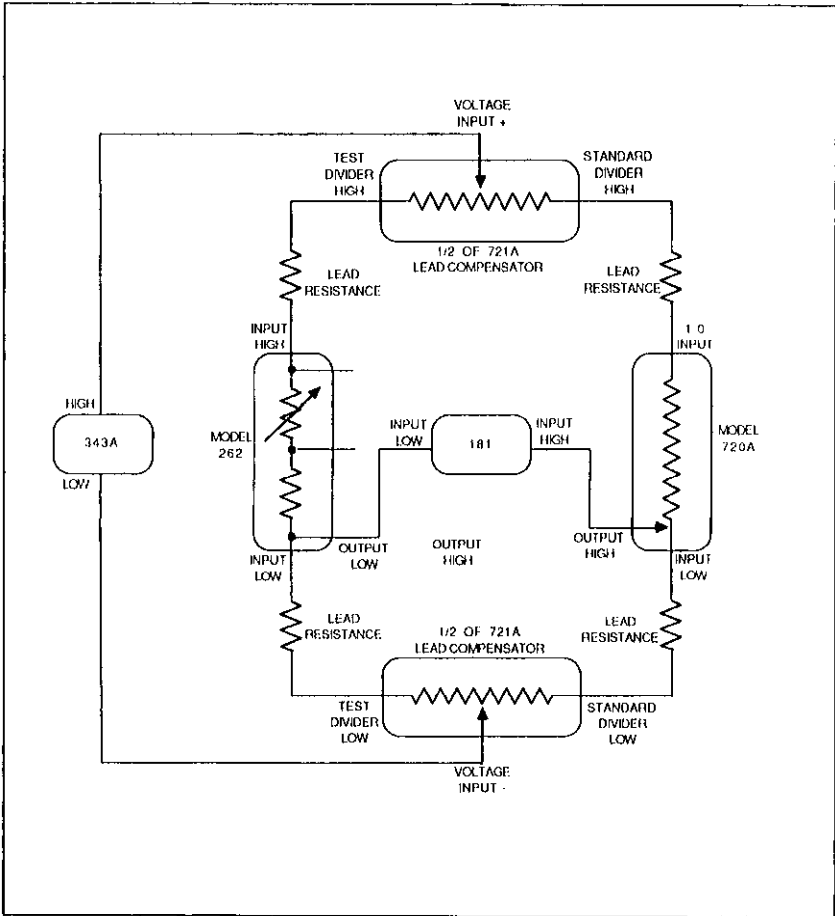

Figure 5A. LO Lead Compensation Schematic
13. Change the equipment set up back to that illustrated in Figure 5A and B.